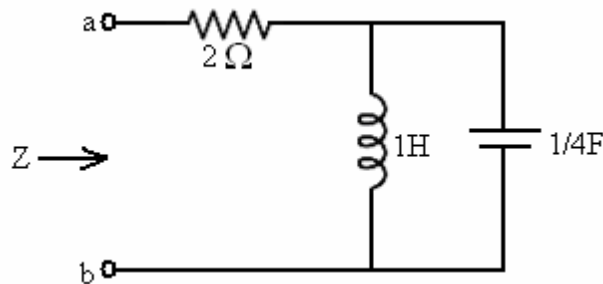

Figure. 2
- b) Transform the below circuit (Figure.2) into 'S' domain and determine the Laplace impedance. [7+8]